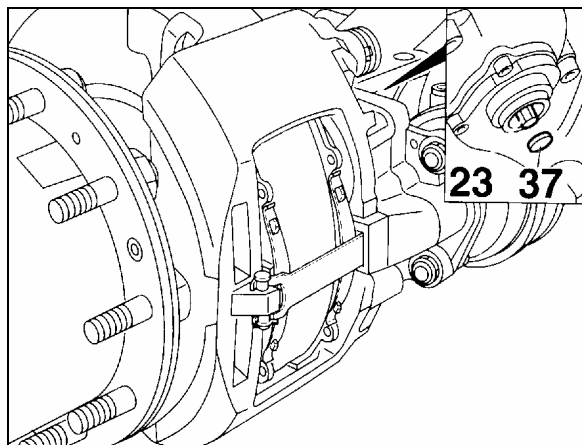

FIGURE 27: ADJUSTER PINION
b) Using a box wrench (8 mm), turn the adjuster pinion (23, Fig. 27) counterclock-
wise about 2 - 3 clicks to increase running clearance. By operating the braking system about 5 - 10 times (30 PSI or 2 bar), the wrench should turn clockwise in small increments if the adjuster is functioning correctly (Figs. 27 and 28).